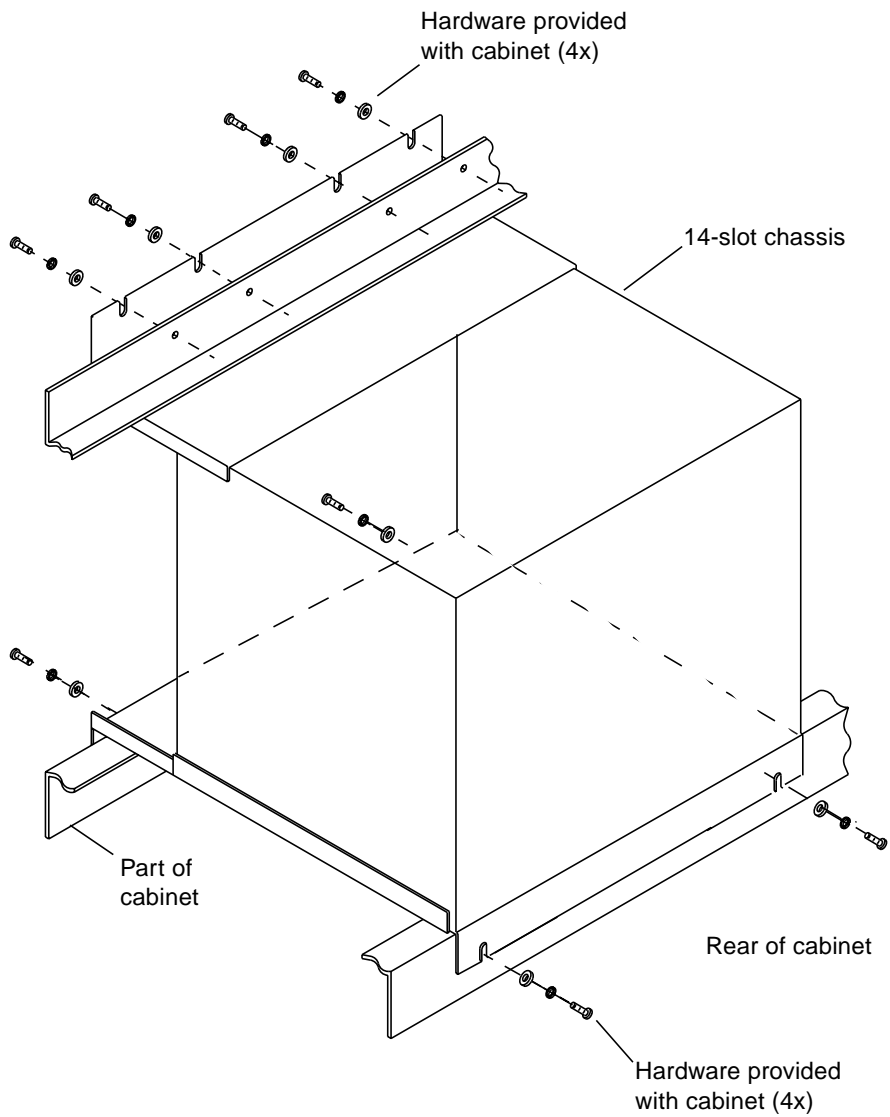

FIGURE 6-34 Chassis Removal/Replacement Screw Locations
4. **At the bottom and top of the chassis, using a Philips screwdriver, remove the screws holding the chassis to the frame, as shown in FIGURE 6-34.**
6. **At the bottom of the chassis, using a Philips screwdriver, remove the screws holding the chassis to the frame, as shown in FIGURE 6-34.**
2. At the bottom of the chassis, using a Philips screwdriver, replace the screws holding the chassis to the frame, as shown in FIGURE 6-34.
4. Go to the front of the cabinet. At the bottom and top of the chassis, using a Philips screwdriver, insert each screw holding the chassis to the frame, as shown in FIGURE 6-34, and hand tighten the screw.